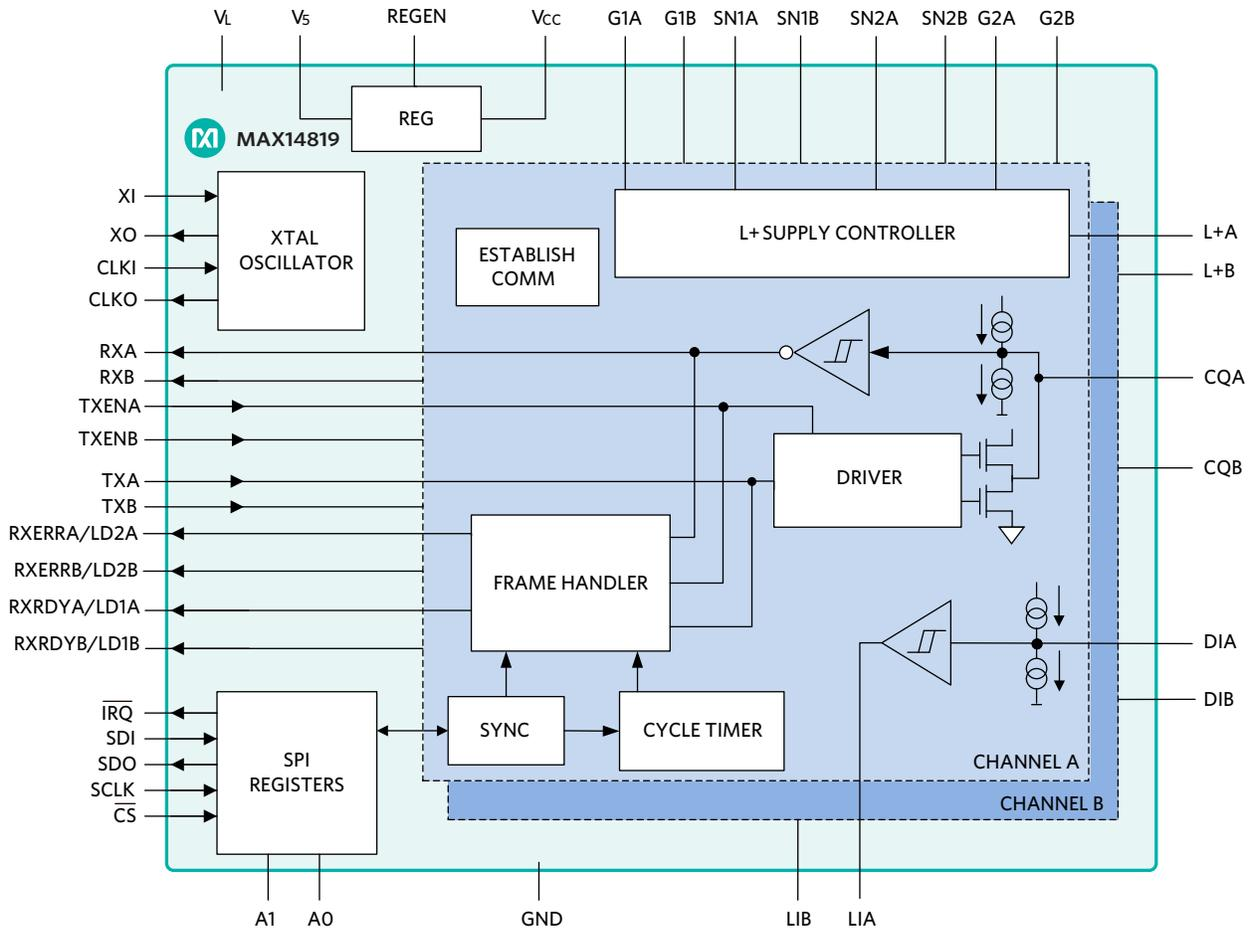

Figure 33. MAX14819 Dual IO-Link Master Transceiver
The **MAX14819** low-power, dual-channel, IO-Link master transceiver with sensor/actuator power-supply controllers (Figure 33) is fully compliant with the latest IO-Link and binary input standards and test specifications, IEC 61131-2, IEC 61131-9 SDCI, and IO-Link 1.1.2. This master transceiver also includes two auxiliary Type 1/Type 3 digital input (DI) channels. The MAX14819 is configurable to operate either with external UARTs or using the integrated framers on the IC. To ease selection of a microcontroller, the master transceiver features frame handlers with UARTs and FIFOs. These are designed to simplify time-critical control of all IO-Link M-sequence frame types. The MAX14819 also features autonomous cycle timers, reducing the need for accurate controller timing. Integrated communication sequencers also simplify wake-up management.